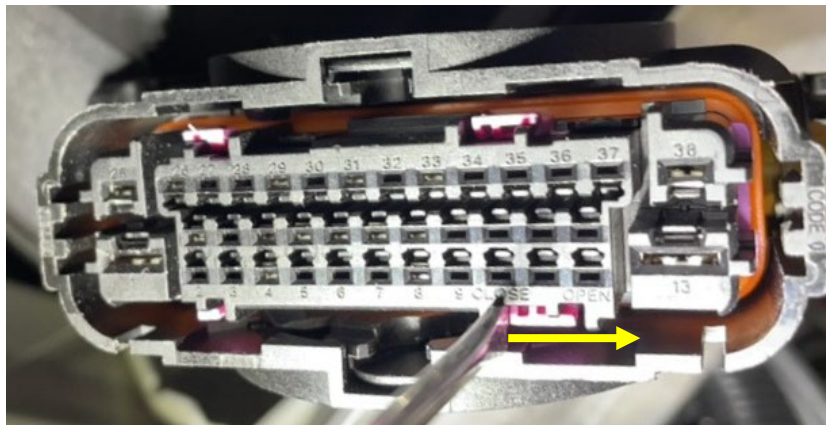

Figure 12
14. Use a pick to slide the large locking tab of connector X151 from “CLOSE” to “OPEN” (Figure 12).